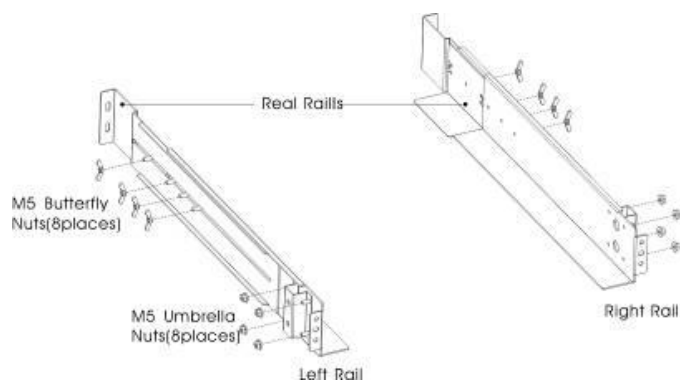

Figure1 - Securing the Rails
- *If installing optional EBP(S), make sure to install the EBP(S) directly below the UPS so that all wiring between the cabinets is installed behind the front covers and inaccessible to users.*
(1) To install the rail kit
- a) Assemble the left and right rails to the rear rails as shown in Figure1. Do not tighten the screws. Adjust each rail size for the depth of your rack.
- c) Tighten four M5 Umbrella Nuts in the side of rail assembly(see Figure 1).